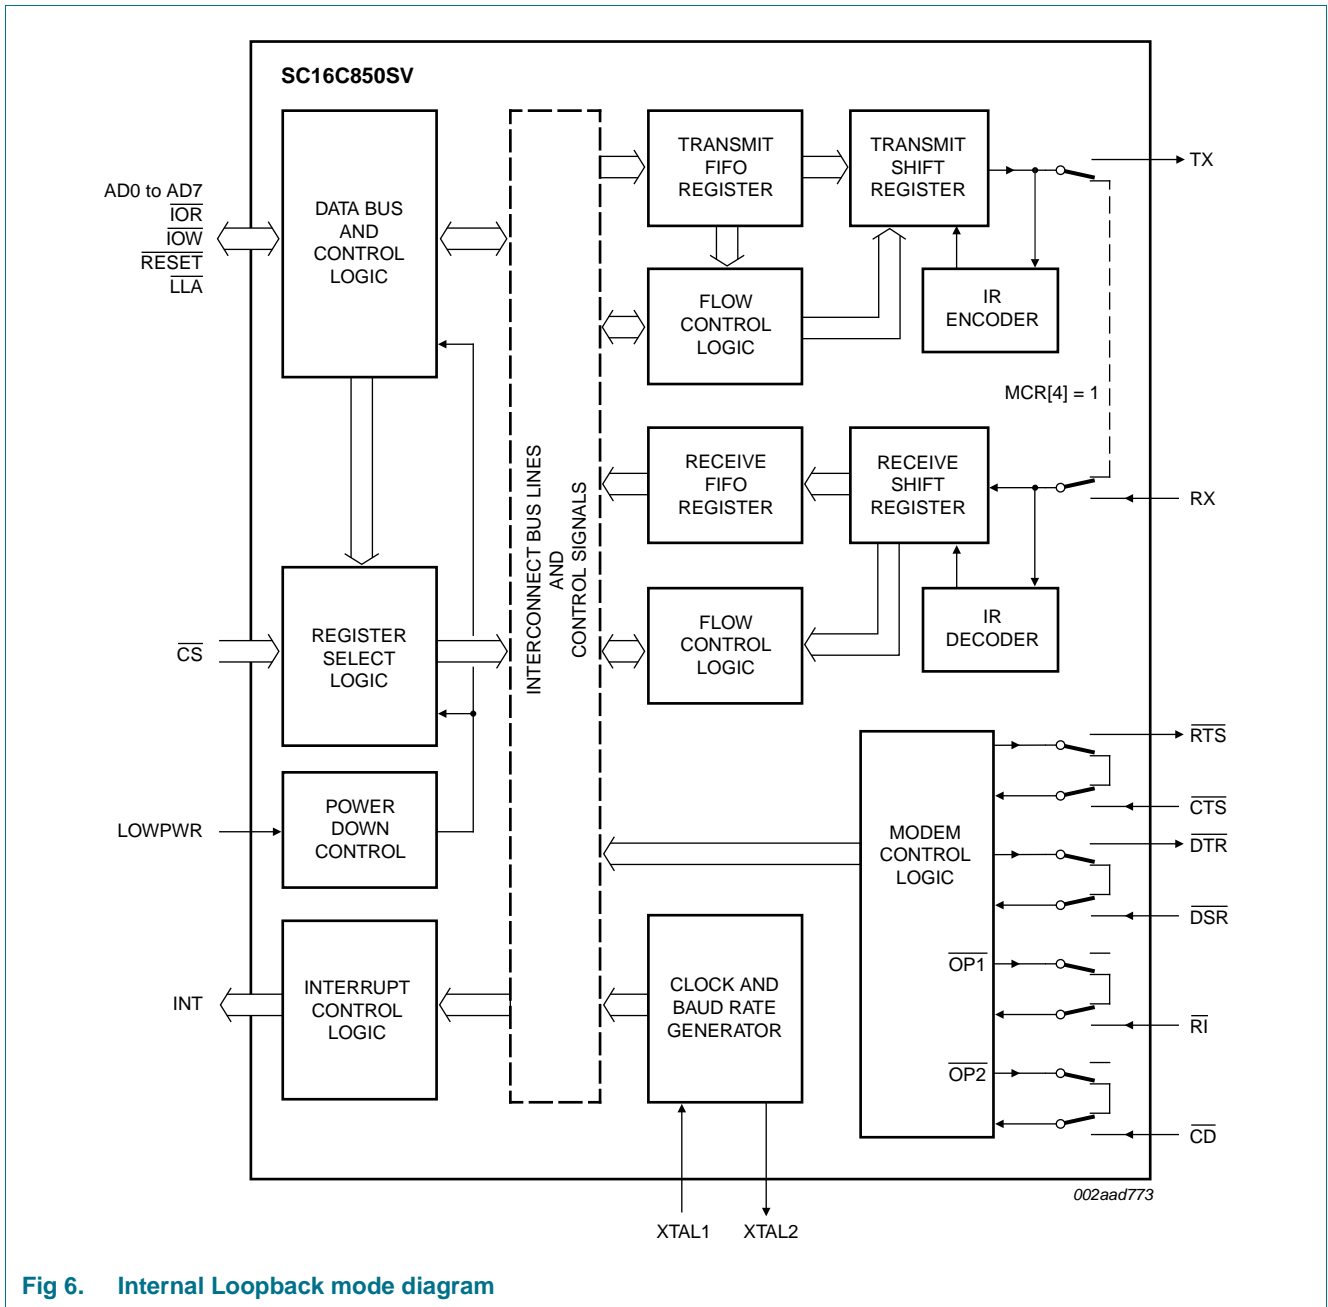

Fig 6. Internal Loopback mode diagram
The internal loopback capability allows on-board diagnostics. In the Loopback mode, the normal modem interface pins are disconnected and reconfigured for loopback internally (see Figure 6). MCR[3:0] register bits are used for controlling loopback diagnostic testing. In the Loopback mode, the transmitter output (TX) and the receiver input (RX) are disconnected from their associated interface pins, and instead are connected together internally. The  $\overline{\text{CTS}}$ ,  $\overline{\text{DSR}}$ ,  $\overline{\text{CD}}$ , and  $\overline{\text{RI}}$  are disconnected from their normal modem control inputs pins, and instead are connected internally to  $\overline{\text{RTS}}$ ,  $\overline{\text{DTR}}$ , MCR[3] ( $\overline{\text{OP2}}$ ) and MCR[2] ( $\overline{\text{OP1}}$ ). Loopback test data is entered into the transmit holding register via the user data bus interface, AD[7:0]. The transmit UART serializes the data and passes the serial data to the receive UART via the internal loopback connection. The receive UART converts the serial data back into parallel data that is then made available at the user data interface AD[7:0]. The user optionally compares the received data to the initial transmitted data for verifying error-free operation of the UART TX/RX circuits.